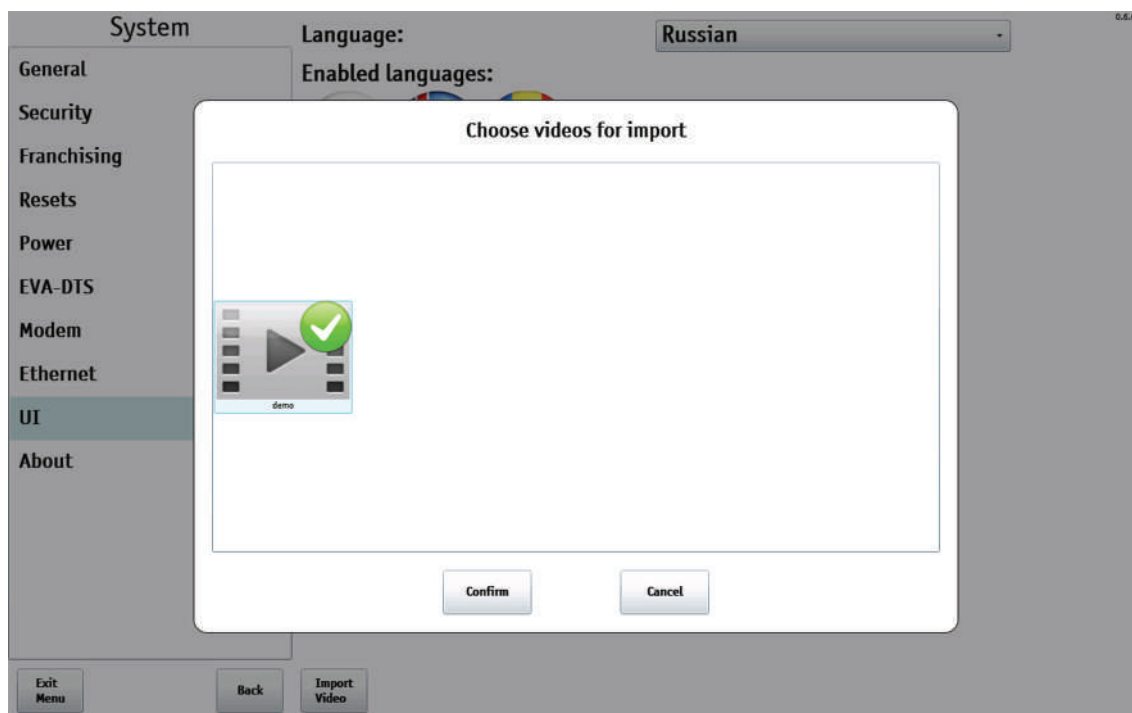

Fig.9.9.1 - System (UI) - Import Video
4. Choose a video from the list (see fig. 9.9.1) and press the **Confirm** button.